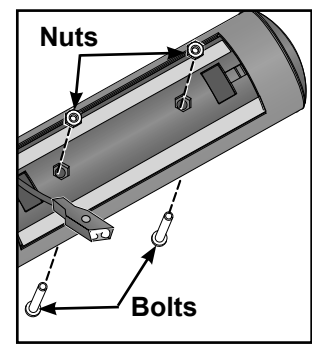

Figure 37
- E. While being careful not to overtighten and crack the housing, place the nuts in their holes and secure them with the bolts. **NOTE:** It is easier to place the nuts on the top and the bolts from the bottom. See Figure 37.